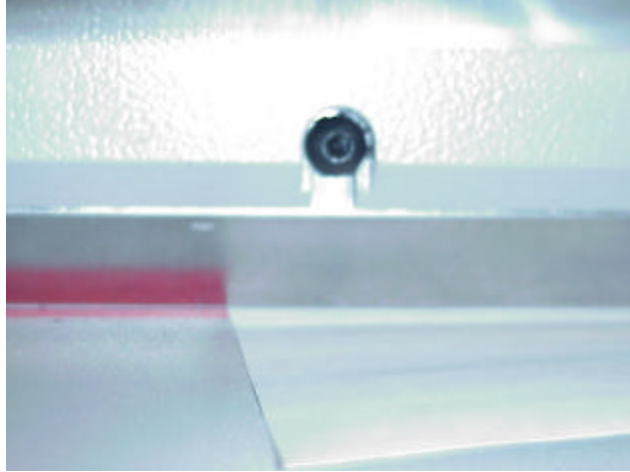

Fig. 10
8. With Knife Handle in its lowest position turn Adjustment Screw until the Knife cuts thru the entire sheet. Once this has been achieved try to cut a lift of 50 – 100 pages making sure all pages are cut. See Figure 10.